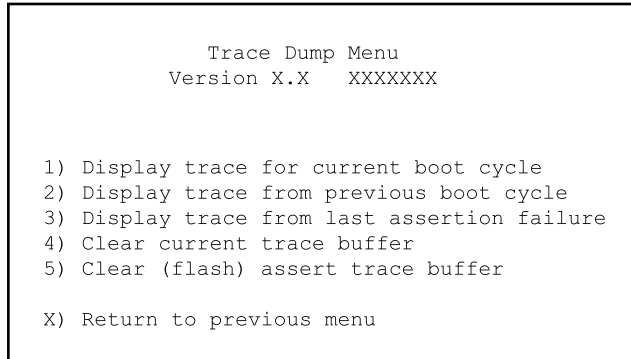

Figure 110: Trace Dump menu
In the router Main Menu, **Display Trace and Assertion History (3)** is used to manage trace history information (see Figure 110).